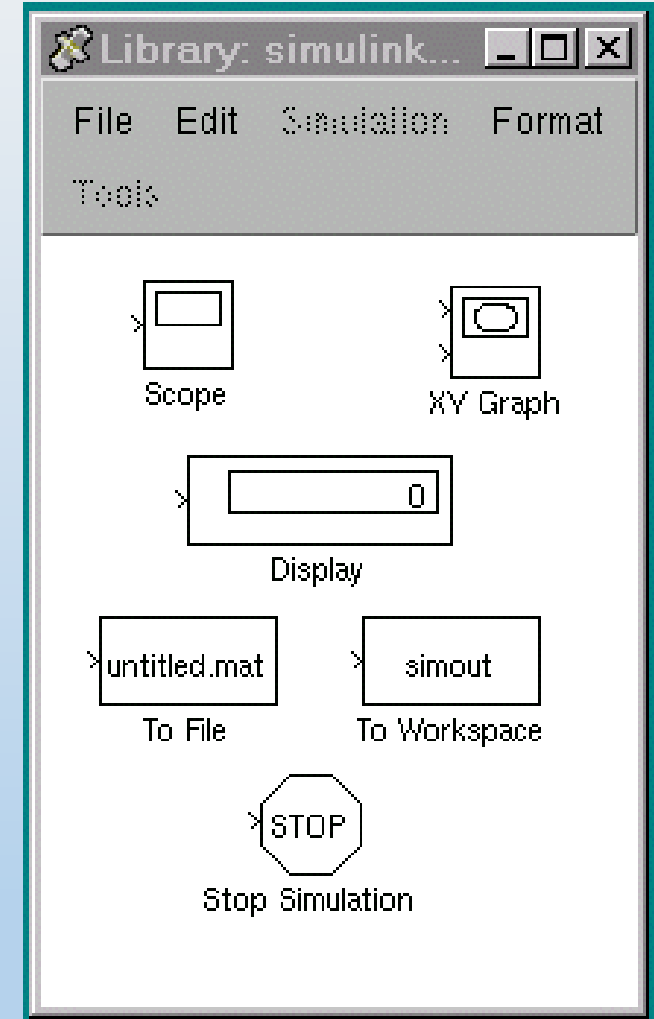

Fig. 8
- **Step 7** : Open the Sinks block library, as shown in Fig.8, and drag a Scope block to the model window. In the same Sinks window drag a To Workspace block to the model window.